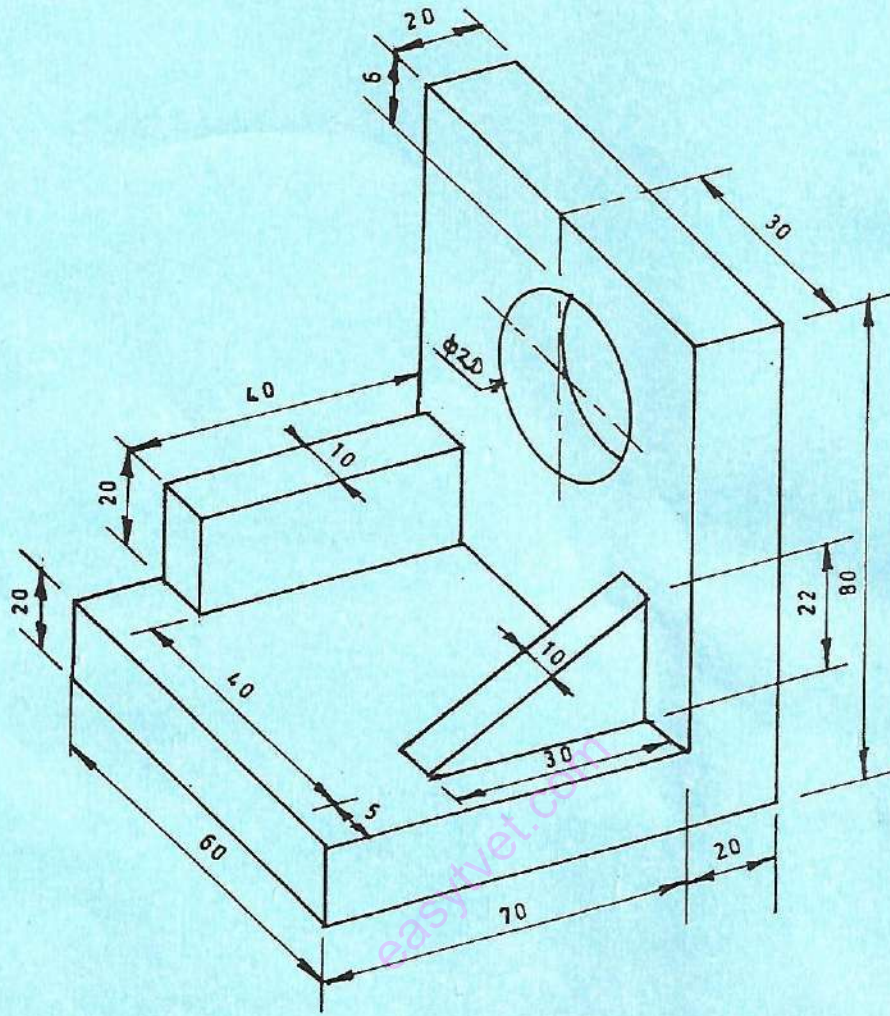

Fig. 4
7. Figure 4 shows a machined bracket. Draw the bracket in isometric projection. (15 marks)